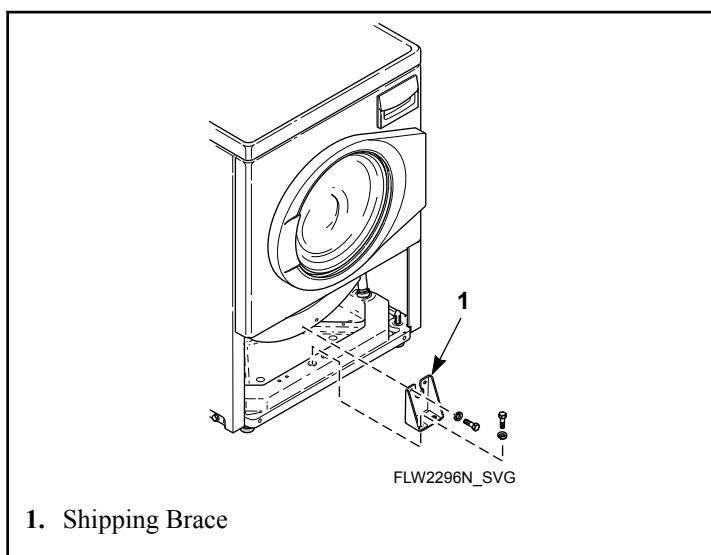

Figure 25
4. Attach shipping brace to weight and base using four bolts and washers. Refer to *Figure 25*.